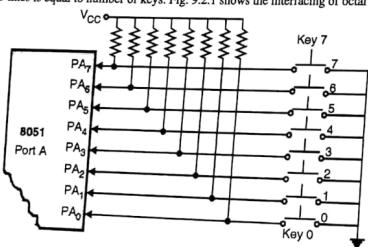

Fig. 9.2.1 : Non matrix type keyboard
- The number of I/O lines is equal to number of keys. Fig. 9.2.1 shows the interfacing of octal non-matrix type keyboard.